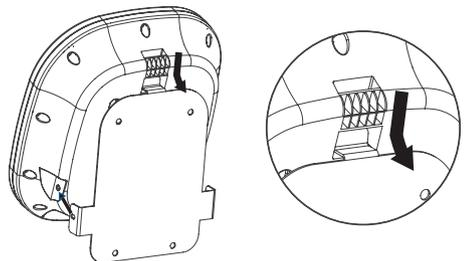

Fig. 7: EV 300 alignment to wall-mount
1. Attach the EV 300 AC power unit to the wall-mounting bracket by hooking the top, rear notch to the top tab on the wall-mounting bracket (see Fig. 7).